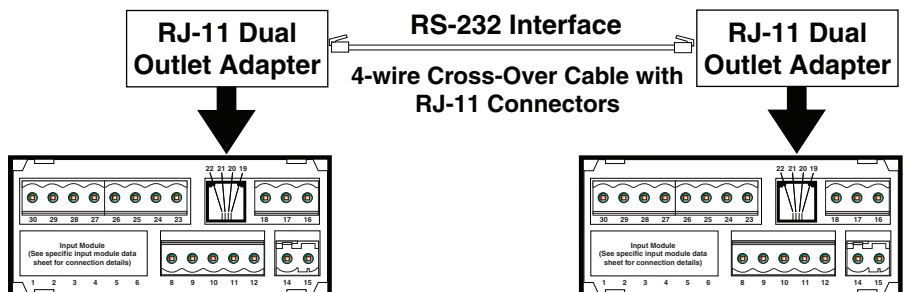

Figure 21 – Meter to Meter Connection through Serial Ports
- 6) Connect both meters through the serial port (See Figure 21).